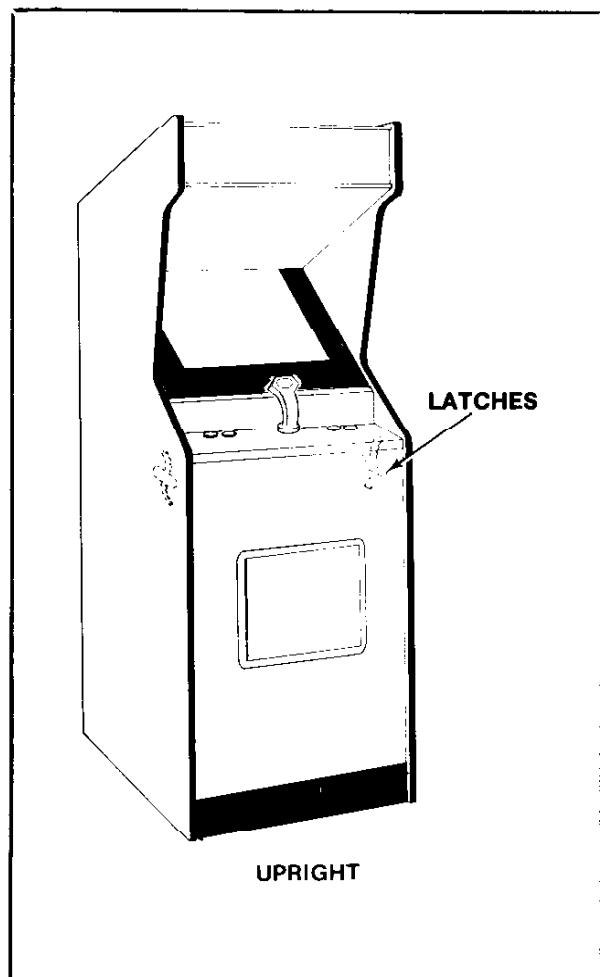

Figure 3-2 Opening the Control Panel
1. UPRIGHT MODEL: See Figure 3-2.